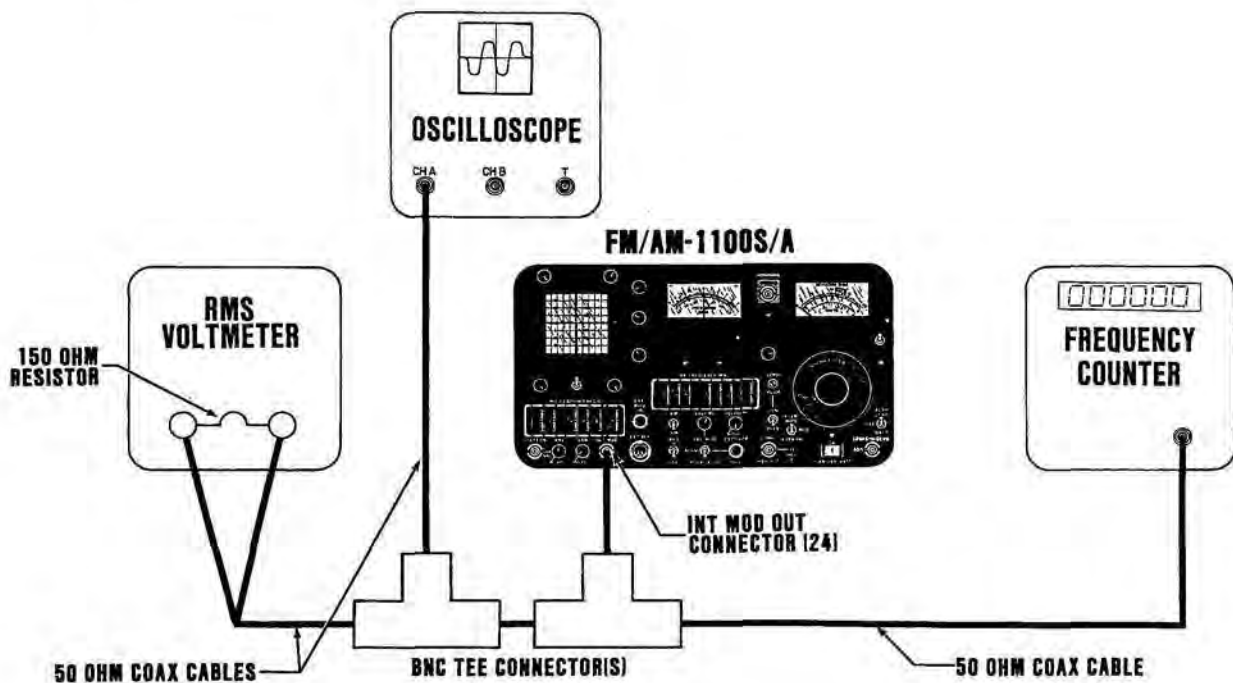

Figure 3-24 Dual Tone Generator Test Set-Up Diagram
1.	Connect FM/AM-1100S/A to required accessory equipment as shown in Figure 3-24.
5.	Set PWR/OFF/BATT Switch (11) to "PWR". Allow a 30 second warm-up time from a cold start, as trace will not become visible until CRT achieves warm-up.
9.	Rotate 1 kHz/OFF Control (26) fully cw and verify RMS Voltmeter indicates a minimum of 2.5 VRMS. Also make sure Frequency Counter displays a frequency between 0980.0 Hz and 1020.0 Hz.